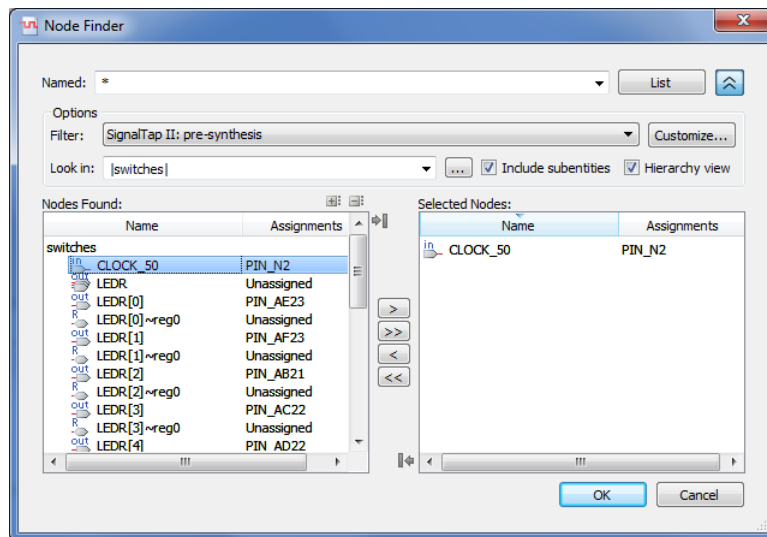

Figure 9. Setting CLOCK_50 as the clock for the SignalTap instance on a DE-series board.
- Before the SignalTap analyzer can work, we need to specify what clock is going to run the SignalTap module that will be instantiated within our design. To do this, in the Clock box of the Signal Configuration pane of the SignalTap window, click ..., which will again bring up the Node Finder window. Select LIST to display all the nodes that can be added as the clock, and then double-click CLOCK_50, which results in the image shown in Figure 9. Click OK.